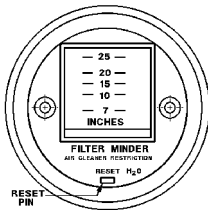

FIGURE 40-4. AIR FILTER RESTRICTION GAUGE
- After the filters have been serviced, reset the air filter restriction gauges by pressing the reset button on the face of the gauge. See Figure 40-4.